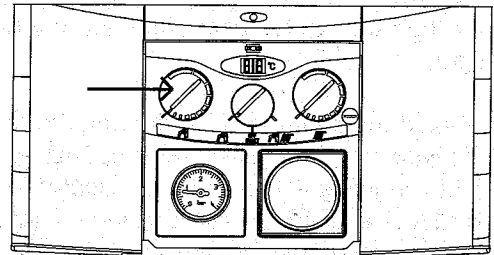

Fig. 3
2.3 The maximum water flow rate to the tap is set at a predetermined maximum delivery. The temperature of water at the tap can be varied by adjusting the water flow rate at the tap up to the predetermined maximum. The hot water temperature control knob  (7) will govern the maximum temperature. Turning the knob clockwise increases the setting, anticlockwise decreases setting. (Fig. 3)